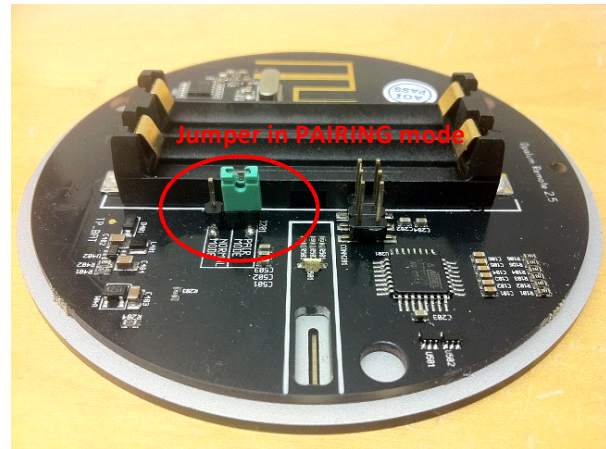

Fig 4: Jumper in pairing position
Step 5: Move the jumper to the pairing position to enable pairing mode. This jumper position is shown in figure 4.